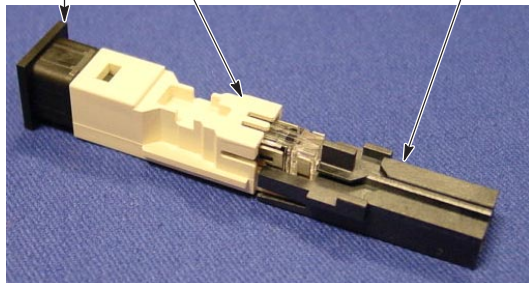

Figure 4
1. Holding the jack or placing the jack on a clean, flat surface (the protective cover helps to keep the jack stabilized), slide the fiber guide onto the back of the jack. See Figure 4.